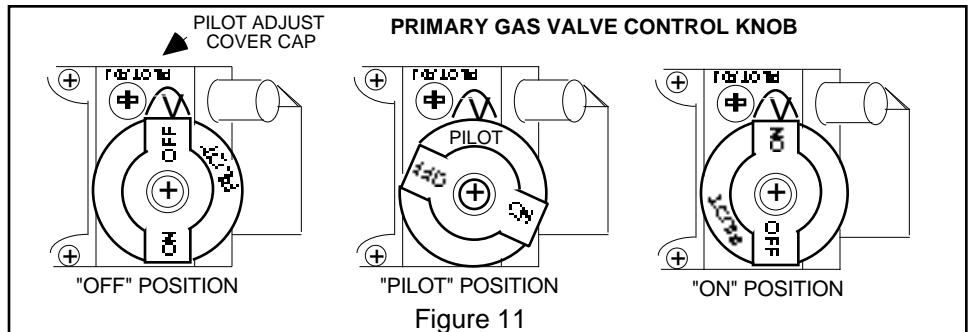

Figure 11
1. Depress and turn **Primary Gas Valve Control Knob** (located on valve behind Selector Switch Plate) clockwise to the "OFF" position. (Figure 11).
5. Turn **Primary Gas Valve Control Knob** counter clockwise to "PILOT" position. (See Figure 11)
9. For complete shutdown, slightly push in the **Primary Gas Valve Control Knob** (Figure 11) knob in and turn clockwise to "OFF".
8. For complete shutdown, slightly push in the **Primary Gas Valve Control Knob** (Figure 11) knob in and turn clockwise to "OFF".
2. If adjustment is necessary, use a narrow long stem screw driver to turn pilot adjustment screw (see Figure 11).